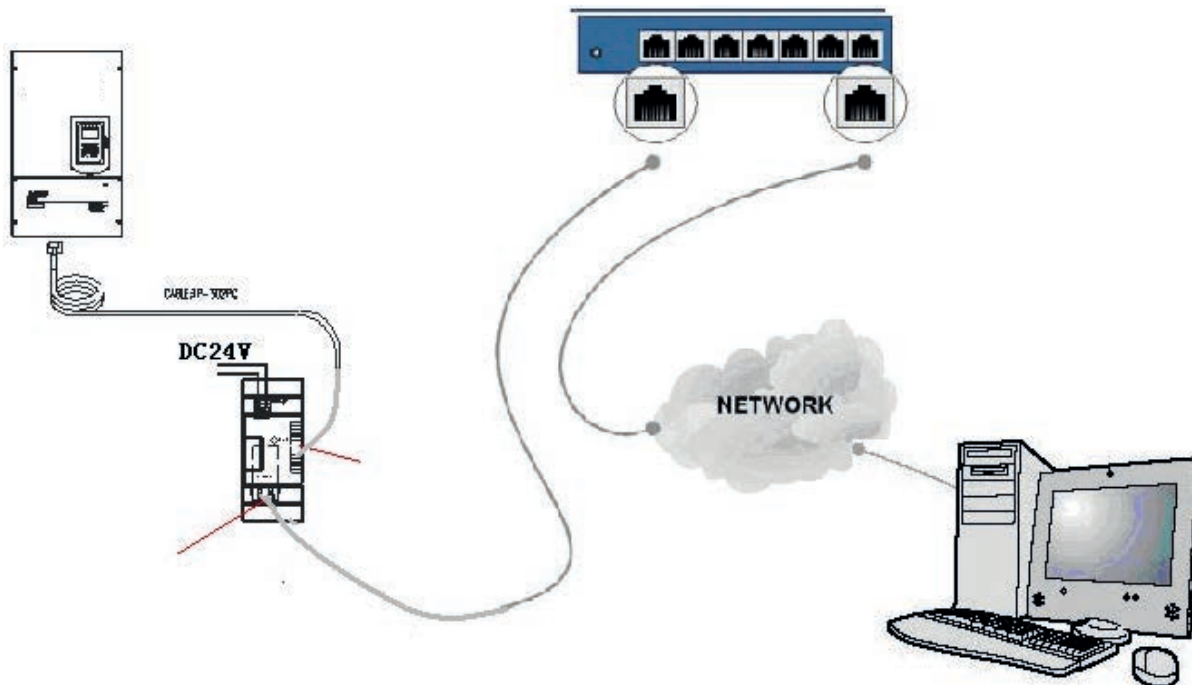

Figure 1: Connecting RV-TCPIP with the inverter of RVFF
2. RV-TCPIP module port can connect with network that will be in the same subnet as PC, shown as figure 1 so that it can perform remote control.
If you have correct connection following figure 1 and provide 24V power supply to RV-TCPIP module, you can see the orange LED light on the cover of RV-TCPIP. It displays that it has the power and you can find the lights on both sides of the port. Then, take the steps as the followings: